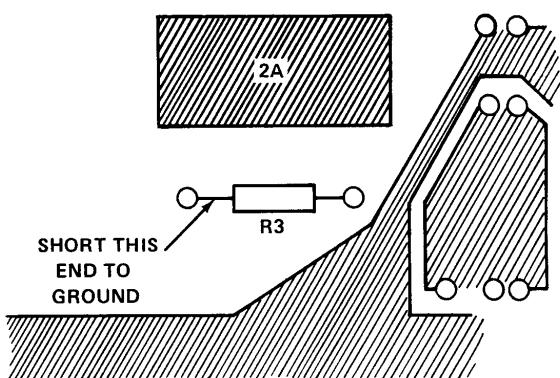

FIGURE 6. SHORTING RESISTOR R3
- If there are eleven chips, you must short resistor R3 to ground (see Figure 6). Use a test clip to do this; **do not cut the resistor's leads**. R3 is at location 2A on the mother PC board; short the side of R3 nearest column 3.